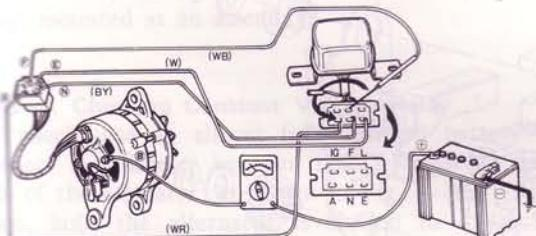

Fig. 5-17 Checking charging system
- Remove the regulator couplers and connect them by using the proper lead wire as shown in Fig. 5-17.